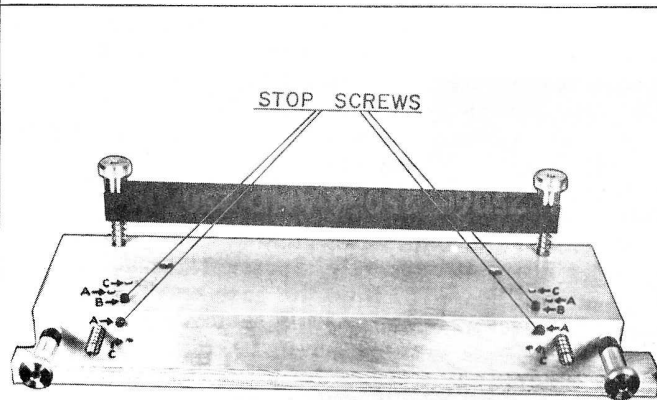

Fig. 10
Insert the dovetail cutter bit through the guide bushing and into chuck collet at least 1/2 inch and tighten carefully. Adjust base height adjustment on router until the cutter extends 17/32 inch below the router base. Insert two (2) stop screws into threaded holes (B) on top of dovetail base and two (2) stop screws into threaded holes (A) in front of dovetail base. Tighten stop screws securely (See Fig. 10).